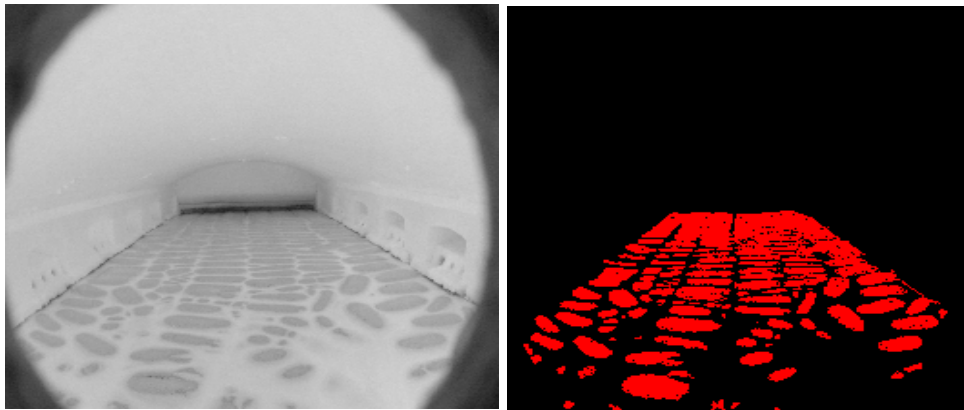

Figure 1. Original image (left) and ground-truth overlay (right)
- Figure 1: Original and ground-truth overlay.